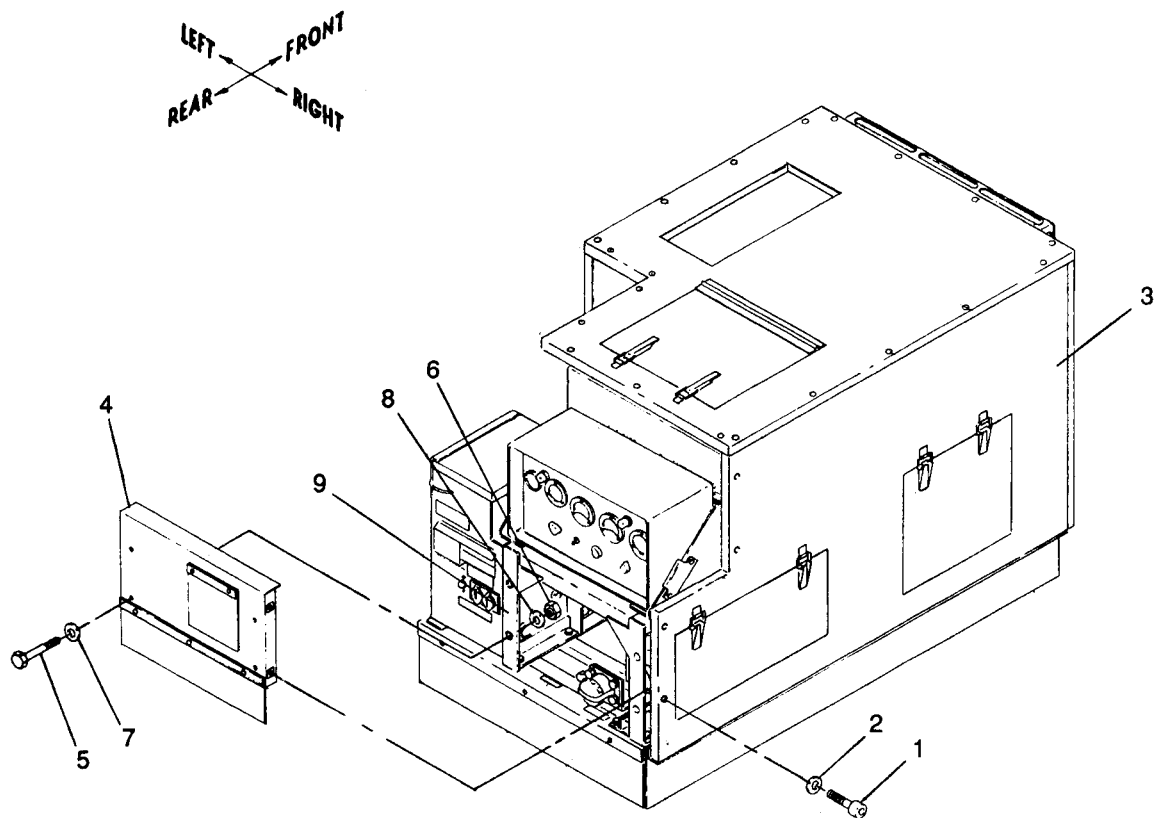

Figure 5-6. Rear Panel Assembly, Removal and Installation
a. Removal. See figure 5-6. Remove rear panel assembly from control cubicle support frame and right panel assembly as follows:
(1) Remove two screws (1) and washers (2) securing right panel assembly (3) to rear panel assembly (4) and remove rear panel assembly (4).
(2) Remove four screws (5) and locknuts (6), and eight washers (7 and 8) securing rear panel assembly (4) to control cubicle support frame (9).
b. Installation. See figure 5-6. Install rear panel assembly to control cubicle support frame and right panel assembly as follows:
(1) Position rear panel assembly (4) on control cubicle support frame (9) and install four screws (5) and locknuts (6), and eight washers (7 and 8) securing rear panel assembly (4) to control cubicle support frame (9).
(2) Torque screws (5) to 16 $\pm$ 2 ft-lbs dry.
(1) Rear Panel Assembly (refer to figure 5-6, item 4).